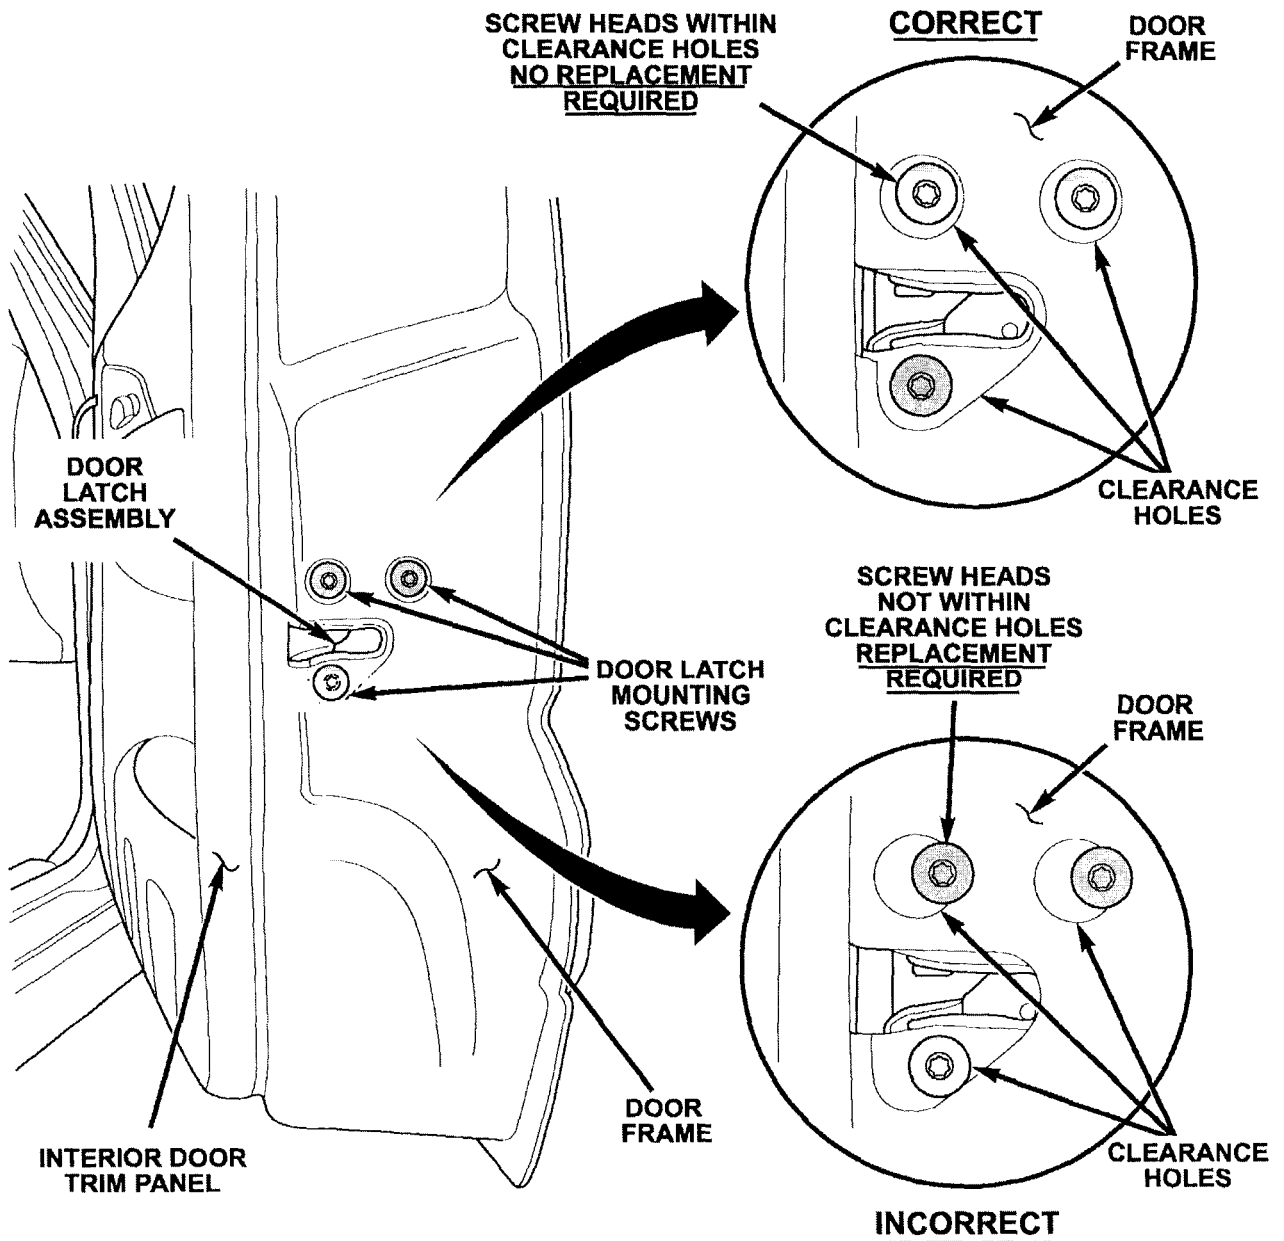

Figure 1 – Right Front Door
- If the screw heads are within the clearance holes (Figure 1) and the primary and secondary latch operates properly, no further action is required.
- If the screw heads are not within the clearance holes (Figure 1) and/or the secondary latch does not engage, replace the door latch reinforcement plate. Continue with **Section B. Door Latch Reinforcement Plate Replacement**.